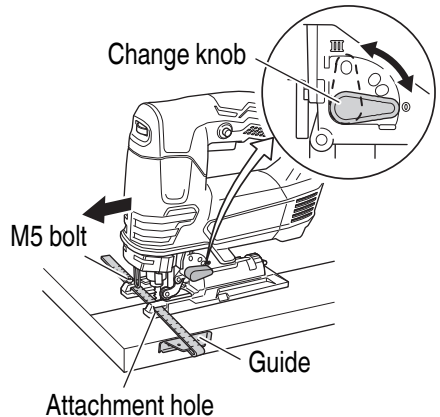

Fig. 12
- (3) Attach the guide by passing it through the attachment hole on the base and tighten the M5 bolt. (Fig. 12)
- (4) Set the orbital position to "0".
To ensure accurate cutting when using the guide (Fig. 12), always set the orbital position to "0".